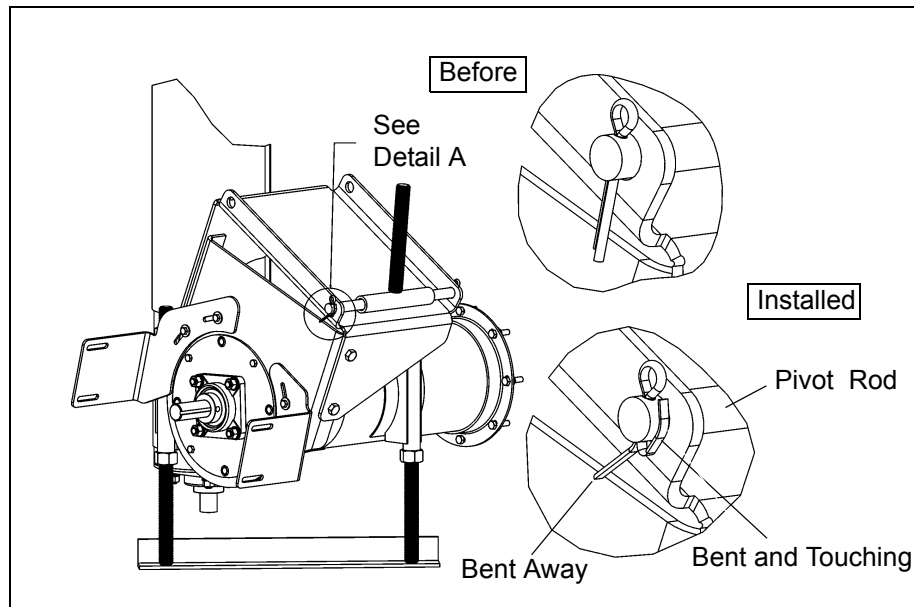

Figure 4P
- C. With the Cotter pins in the Pivot Rod, bend one tab of the Cotter pin back so that it touches the Pivot Rod, and bend the other tab of the Cotter pin away from the first tab. (See Figure 4P)